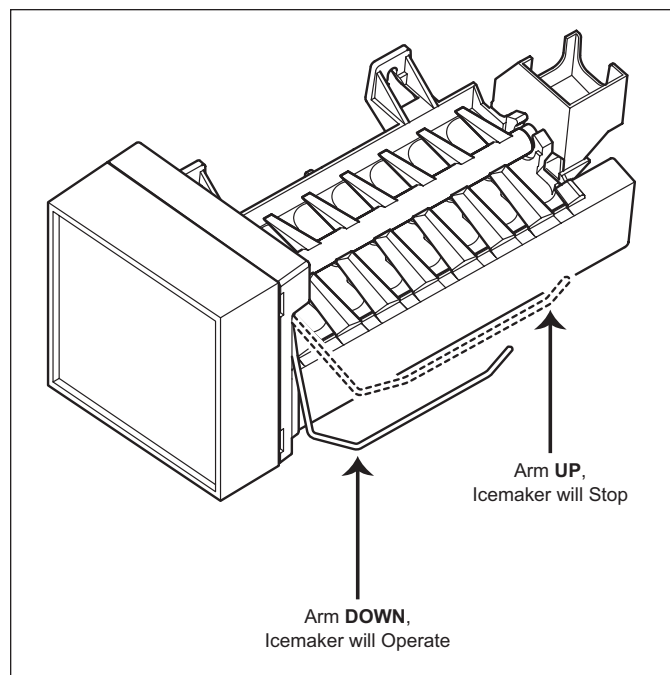

Figure 6-12. Stopping Icemaker
4. In models 611, 650, 680 and 690, lift the ice level arm up to lock it in the OFF position (See Figure 6-12).